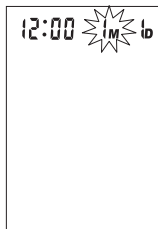

Fig. 1
1. When the unit is off, press and release both the **⏻POWER** and **M** button at the same time. The month will begin to flash, Fig. 1.